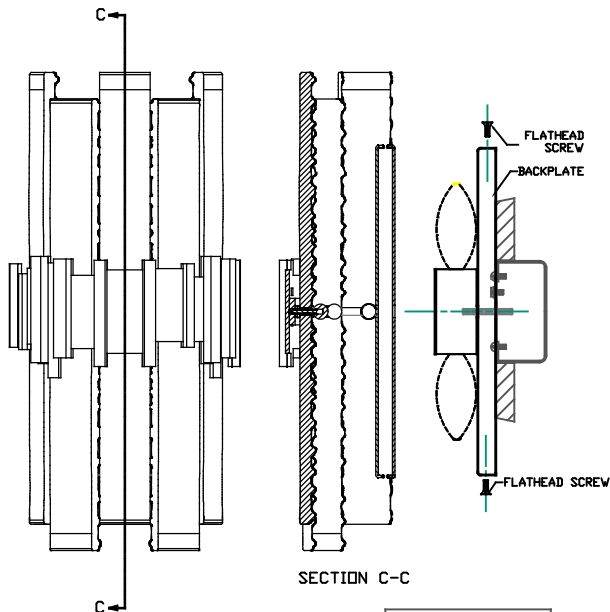

FIGURE-05
7. Attach the fixture frame to the backplate and secure it with flat head screws on top and bottom. (See Figure-05)